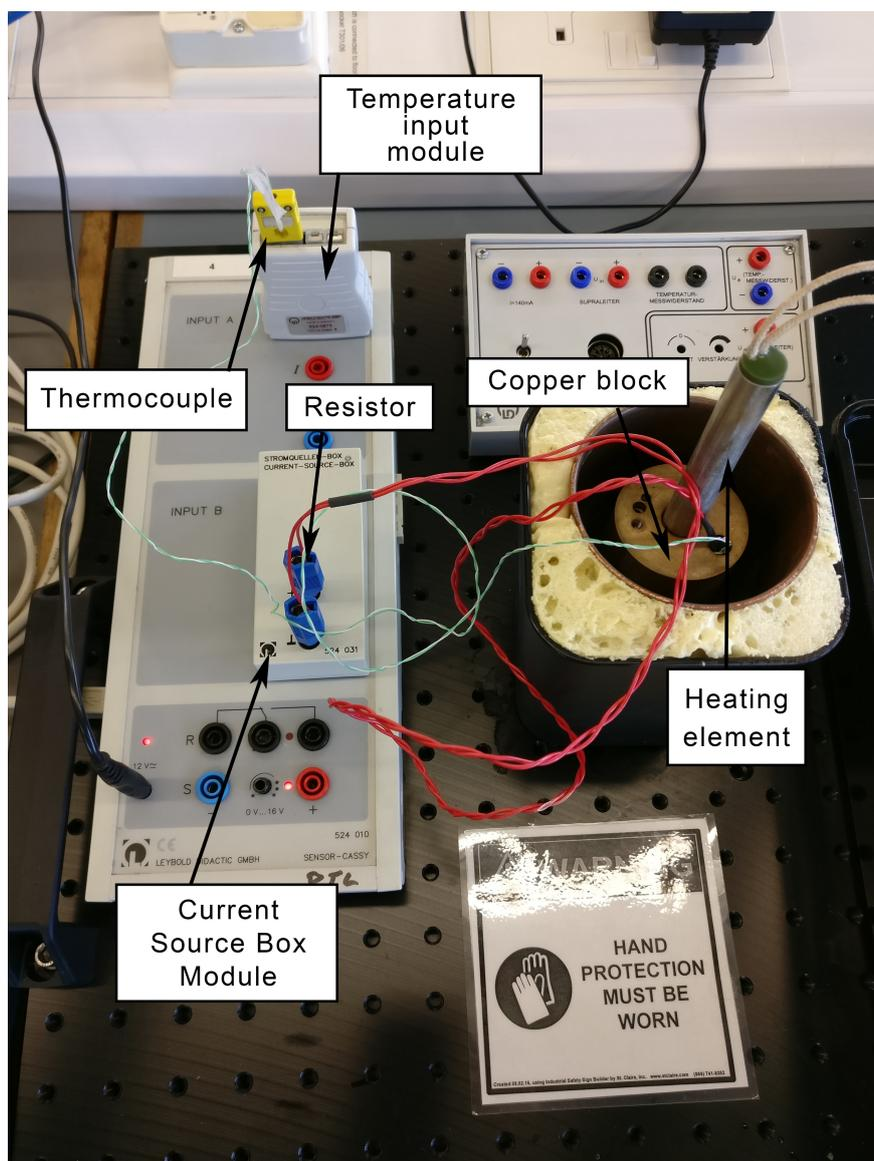

Figure 1: Experimental set-up showing the thermocouple, resistor, copper block, heating element, temperature input module and current source box module.
1. A Leybold CASSY interface is used to acquire the data measuring the resistance and temperature. This can be found on the Desktop > Physics Teaching > CASSY. Make electric connections using the constant current and temperature input modules on CASSY as shown in Figure 1.
3. Insert the heating element into the copper block as shown in Figure 1.